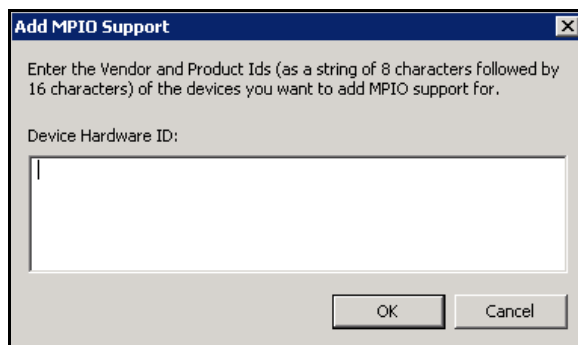

Figure 2-4: Add MPIO Support Dialog Box
4. Click the **Add** button. The Add MPIO Support dialog box appears (see Figure 2-4).